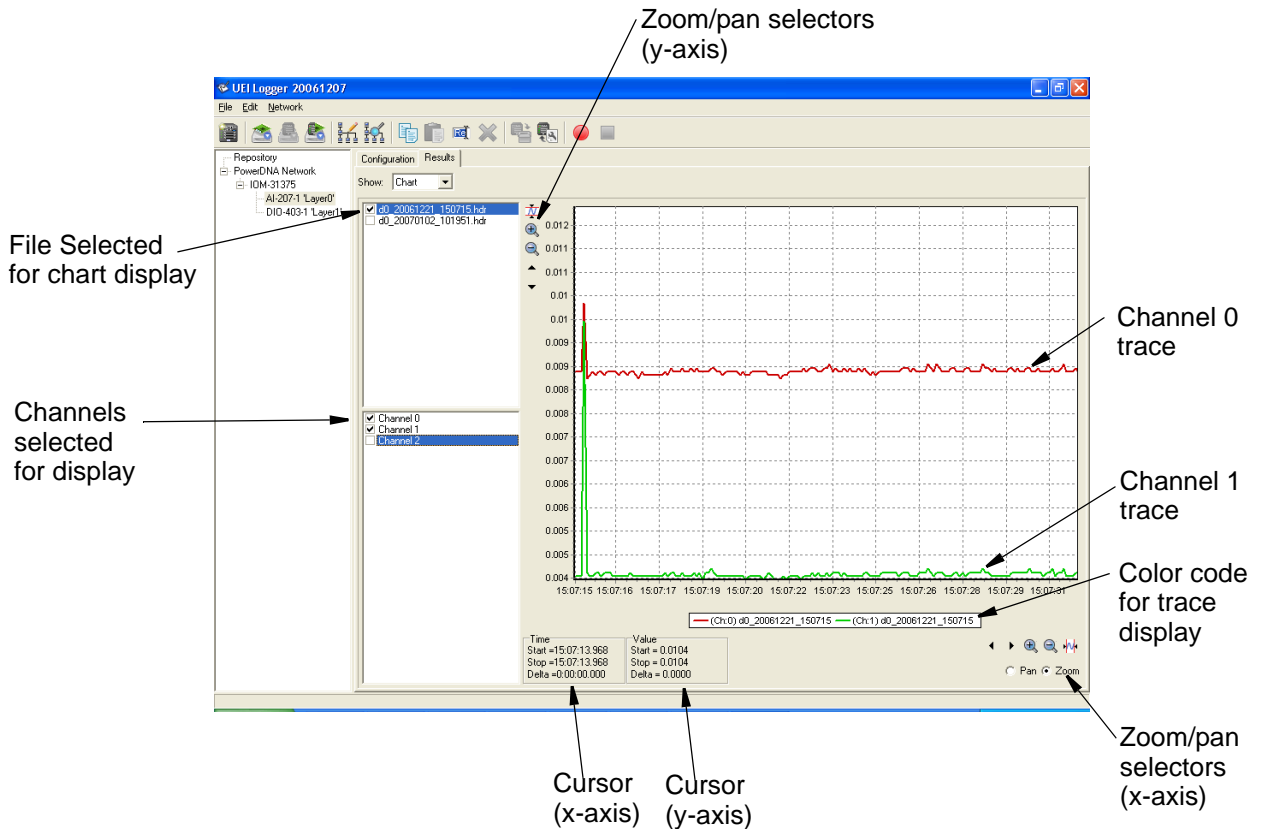

Figure 3-2. Displaying Charts of Analog Scan Results
- STEP 3:** In the Results window, pull down the *Show* menu and select *Chart*. A screen similar to that in **Figure 3-2** appears.